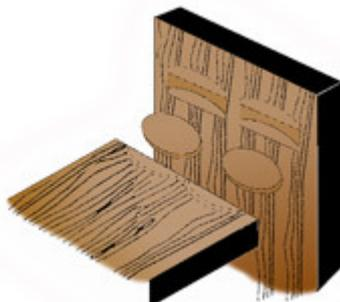

FIG. 18 - Careful planning, measuring and cutting result in attractive strong joints.
- The biscuit joint works quite well for joining one board to the center of another. For this joint, extra care must be taken to align the biscuit slots to ensure a straight center board (Fig. 18). Measure the work pieces carefully. Check the joint by assembling it without adhesive.